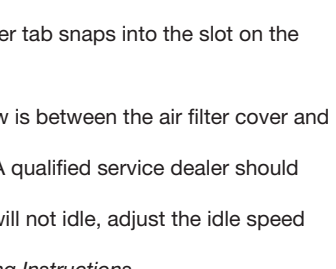

Fig. 27
The idle speed of the engine is adjustable. An idle adjustment screw is between the air filter cover and the engine starter housing (Fig. 27).
2. Release the trigger and let the engine idle. If the engine stops, insert a small Phillips screwdriver in between the air filter cover and the engine cover (Fig. 27). Turn the idle speed screw 1/8 of a turn **clockwise** at a time until the engine idles smoothly.